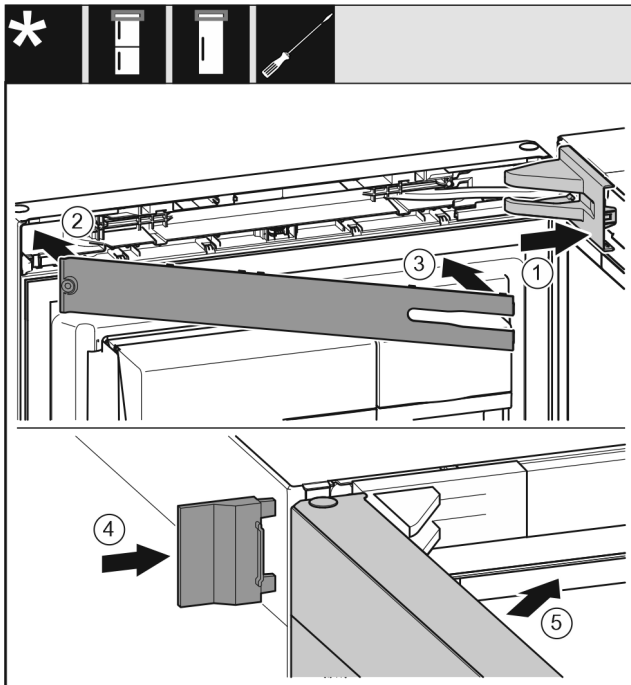

Fig. 25
- Put the swap bearing block cover Fig. 25 (1) on and engage, push apart carefully if required.
- Fit the trim Fig. 25 (2).
- Swivel in the cover Fig. 25 (3) and engage.
- Push the outer cover Fig. 25 (4) on.
- Close the upper door Fig. 25 (5).